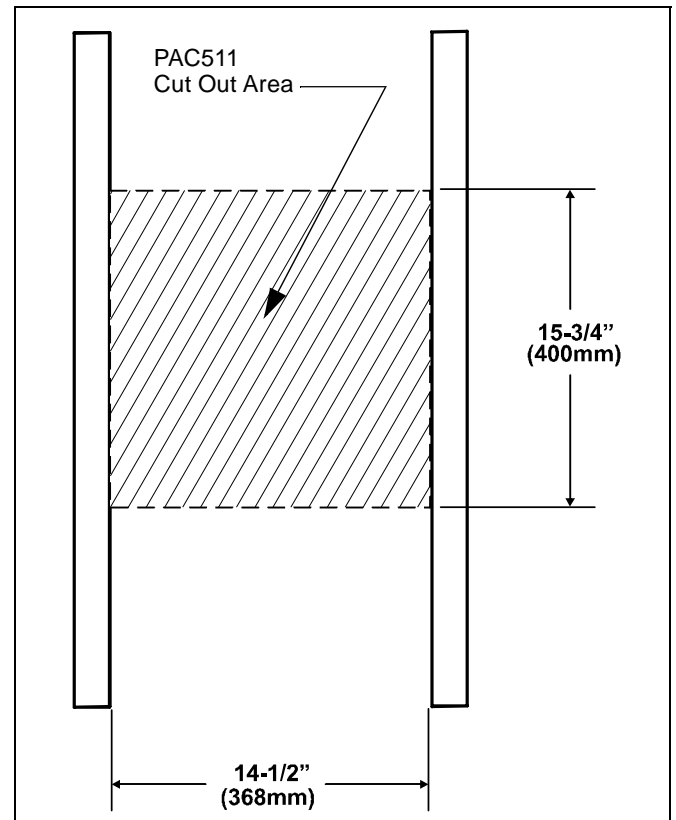

Figure 1
5. Using a measuring tool, measure the marked area and compare to the dimensions below. If measurements match continue to Step 6. If not, adjust markings to match dimensions below. (See Figure 1)